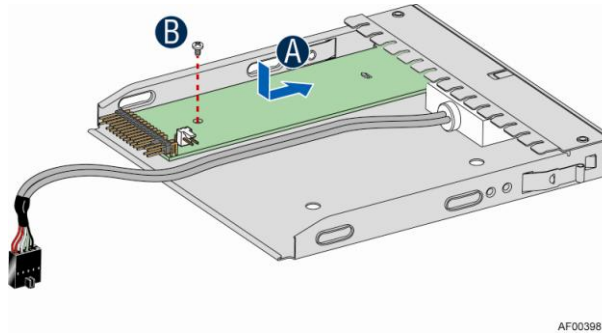

Figure 8. Installing the New Front Panel Board
6. Attach the new front panel board in the front panel tray (see letter **A** in Figure 8) and secure the new front panel board with the screw (see letter **B** in Figure 8).